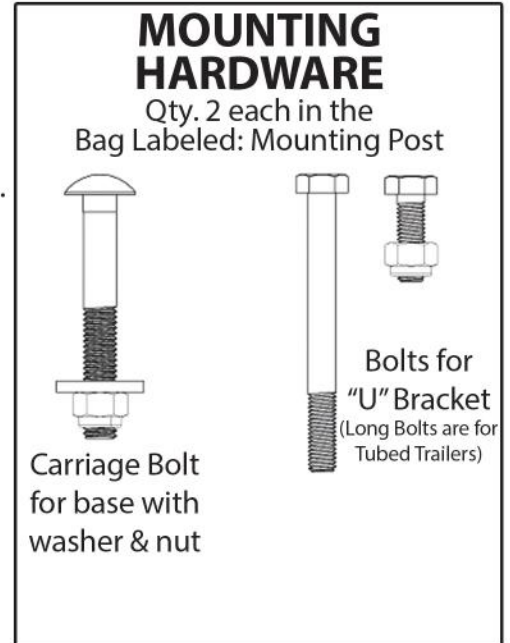

Figure 1
1. Select a location for your sprayer rack and determine the length you need to cut the mounting post, it must be a minimum of 3" above the rail. (Figure 1)